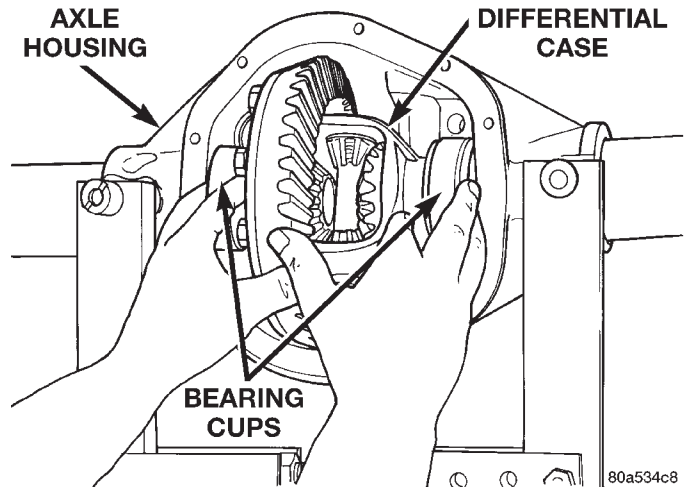

Fig. 27 Differential Case Removal
(10) Remove the dial indicator.
(11) While holding the differential case in position, remove the differential bearing cap bolts and caps.
(12) Remove the differential from the housing. Ensure that the differential bearing cups remain in position on the differential bearings (Fig. 27).